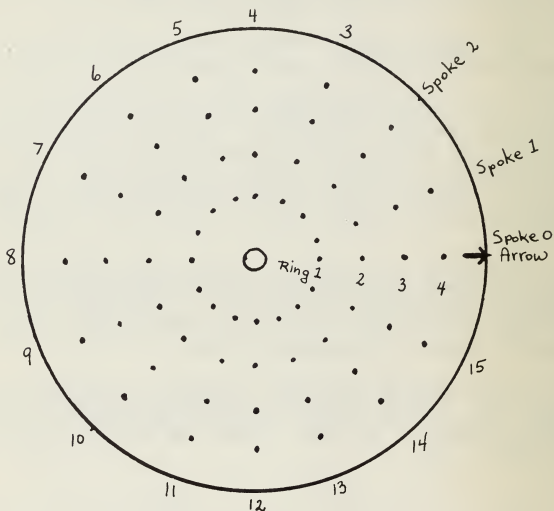

Figure 2-2
In this set of holes, all the hardware of a machine is mounted except the "multiple switches", which will be explained in a moment. The second pattern consists of 6 rosettes of 65 holes in a circular arrangement (shown in Figure 2-2). These are the 6 "bases" of the multiple switches.
12. Multiple Switches. The remaining material which you have in the kit consists of 6 round pieces of masonite, each containing 65 holes in the same circular arrangement (see Figure 2-2), and the hardware for assembling them into multiple switches, switches which are able to switch many circuits at the same time. Each of the circular pieces of masonite is
about $4 \frac{3}{8}$ inches in diameter, is illustrated in Figure 2-2, and is called a multiple switch top (or switch disc, or switch dial).
starting with the spoke directly to the right, and going counterclockwise. See Figure 2-2.